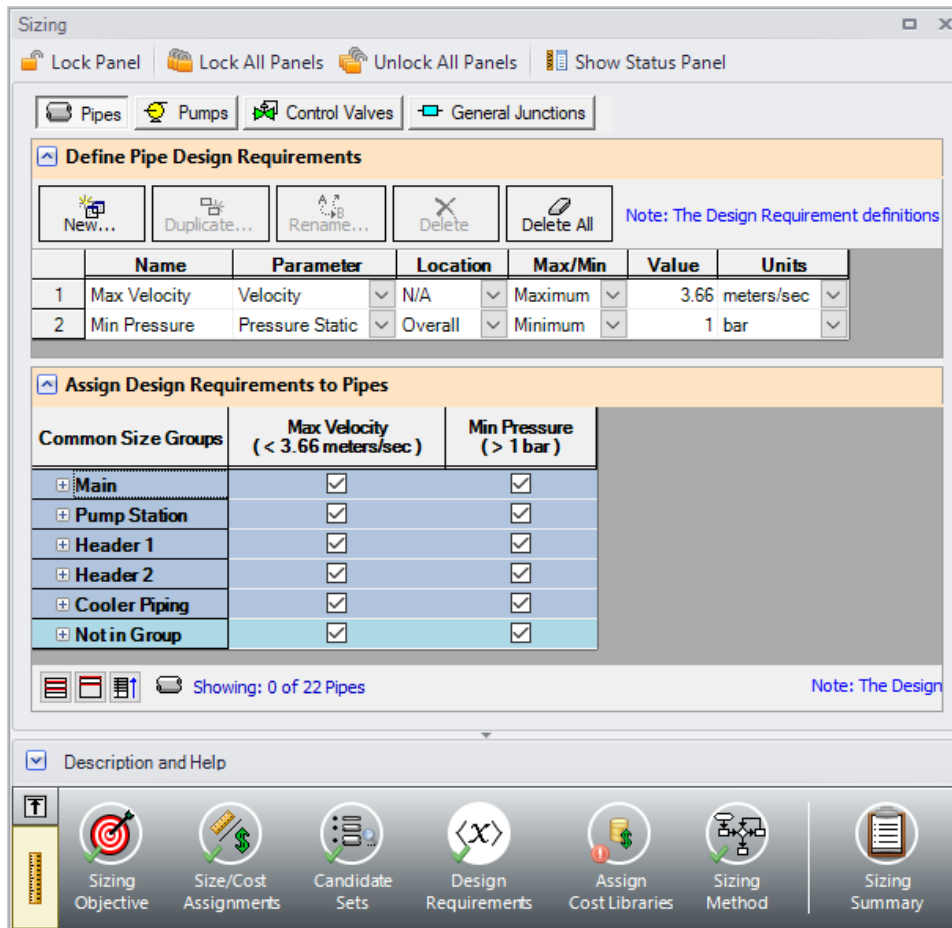
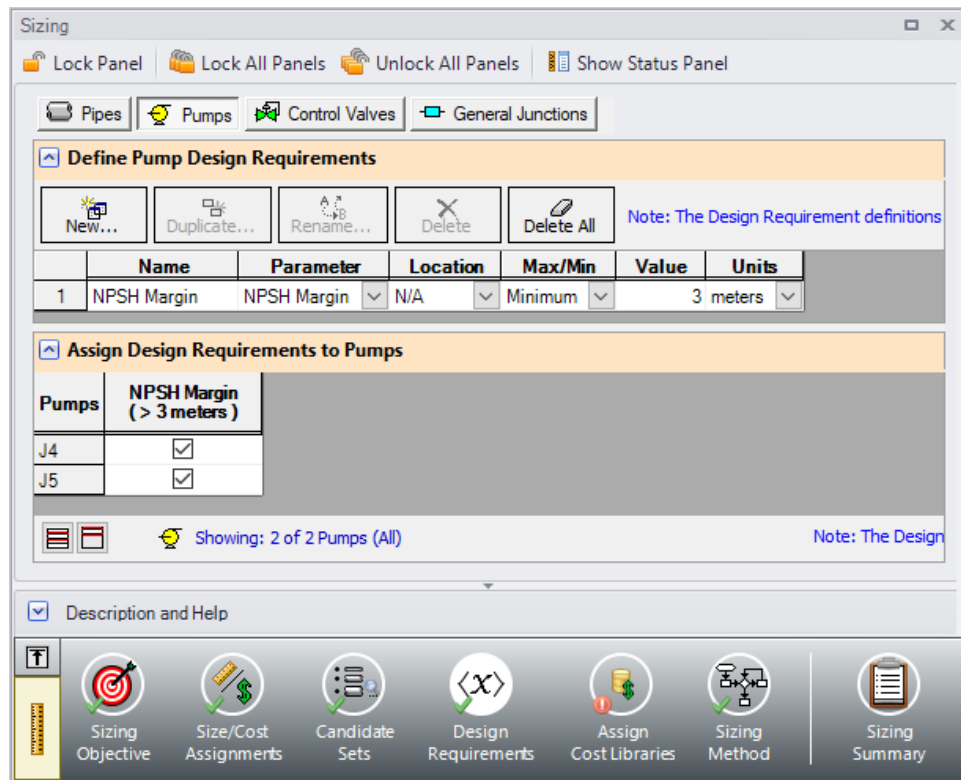

Figure 8: Design Requirements panel for pipes
Figure 9: Design Requirements panel defined for the pumps
Define and assign the first two requirements listed above as Pipe Design Requirements as shown in Figure 8, and item 3 as a Pump Design Requirement as shown in Figure 9. Notice that we have accounted for the minimum flow requirement in this system by using flow control valves at each of the heat exchangers. By using assigned flow pumps and flow control valves at the heat exchangers (we will do this later) we will incorporate the necessary flow rate as a boundary condition, so we do not need to apply a Design Requirement to account for this item.